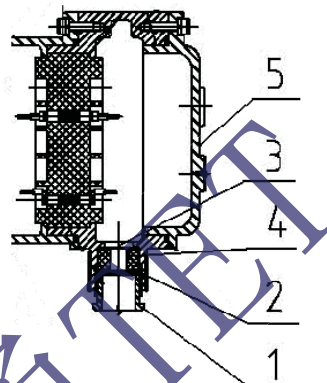

Fig.4 QBR3Ex-QBR5Ex explosive-proof wiring box
### 2.2 Wiring steps for explosion-proof type of electric actuator (see Fig.4)
2.2.3 Put power cable and control cable respectively through No.1, No.2, No.4 and No.2 (see Fig.4)